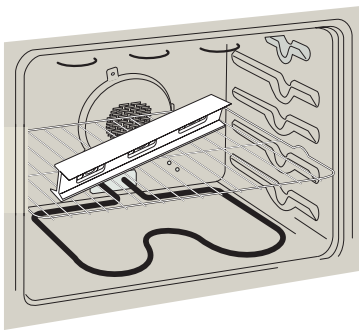

Figure 20
1. Install an oven rack in the center of the oven (see Figure 20).